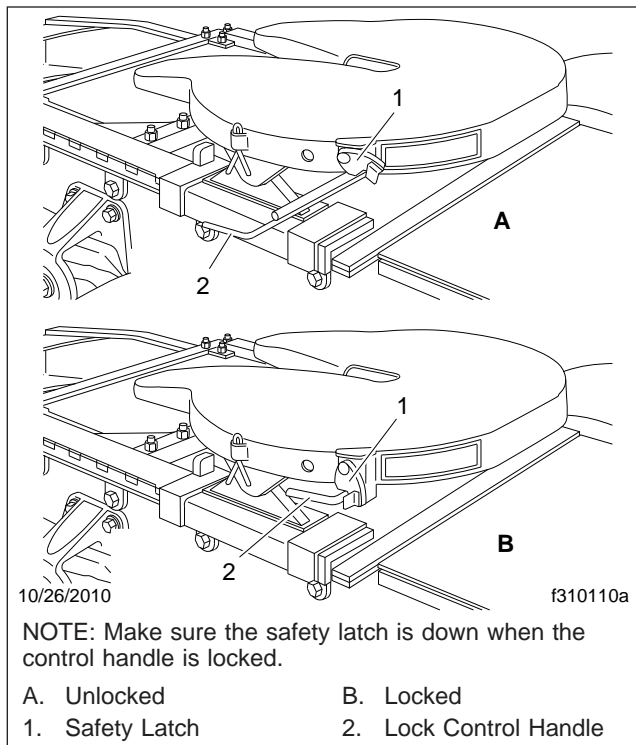
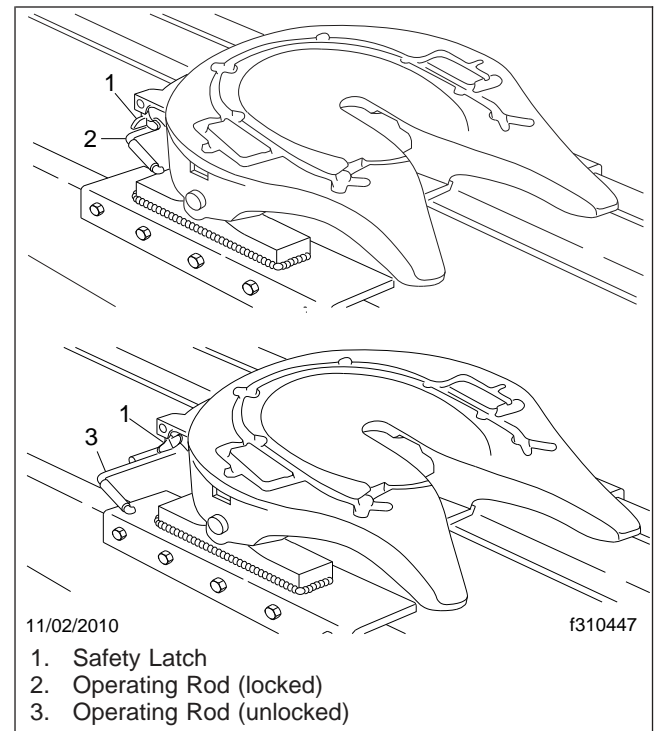

Fig. 17.2, Fontaine Locking Mechanism
Fig. 17.3, Holland Simplex SE Locking Mechanism
2. Ensure the fifth wheel jaw is fully open and the operating rod is in the unlocked position. See Fig. 17.2 or Fig. 17.3.
When lockup has occurred, the fifth wheel control handle moves to the locked position. Make sure that the safety latch is down over the lock control handle to hold the control handle in the locked position. (The safety latch will only rotate down if the operating rod is fully retracted in the locked position.) See Fig. 17.2 for Fontaine fifth wheels. See Fig. 17.3 for Holland fifth wheels.
6.1 **Fontaine:** Lift the safety latch and pull the lock control handle to the unlocked position. See Fig. 17.2.